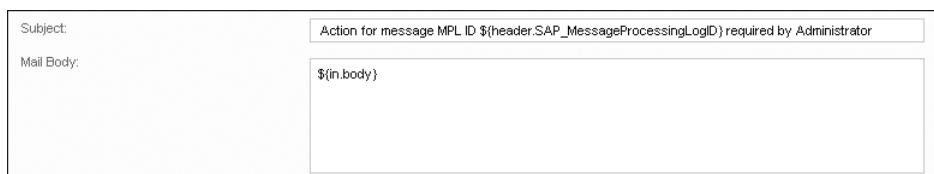

Figure 5.104 Configuring the Mail Adapter for the Administrator
7. In the **Connection** tab of the **Mail** adapter, configure the **Connection Details** according to your email account and the **Mail Attributes**, as shown in Figure 5.104. For the ease of testing, you can use the same email account to send the email created for the administrator too, but use a different **Subject** to identify that this email is meant for the administrator.